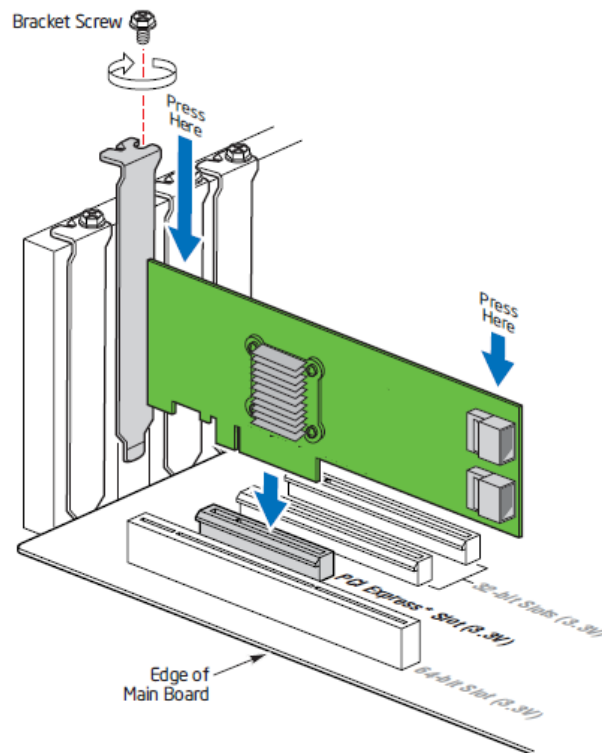

Figure 1. Inserting the Intel® RAID Controller SASUC8I into a PCI Express* Slot
4. Press down gently but firmly to ensure that the card is properly seated in the slot, as shown in Figure 1. Secure the bracket to the computer chassis.